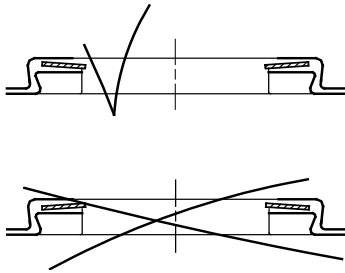

Fig. 29 Correct fitting of wear ring
<ul style="list-style-type: none"> Check whether it is necessary to replace the impeller due to friction between wear ring and impeller skirt. If wear has caused a noticeable (use a finger nail) groove in the impeller skirt, the impeller should be replaced. It is advisable always to replace wear rings (pos. 45) and wear ring retainers (pos. 65) when the chamber stack is dismantled. 	<ol style="list-style-type: none"> Prise the wear ring retainer (pos. 65) up and free of the chamber using a screwdriver. Remove wear ring (pos. 45). Fit a new wear ring in the chamber. See fig. 29. Press a new wear ring retainer on the wear ring and into the chamber. It must be possible to move the wear ring freely (sideways) between the retainer and the chamber.